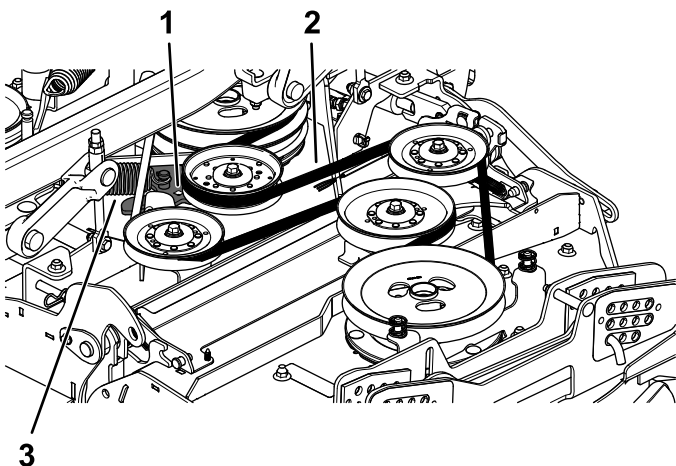

Figure 62
7. Using a ratchet in the square hole in the idler arm, rotate the idler arm rearward to remove tension on the idler spring (Figure 62).
8. Remove the belt from the mower deck pulleys (Figure 62).